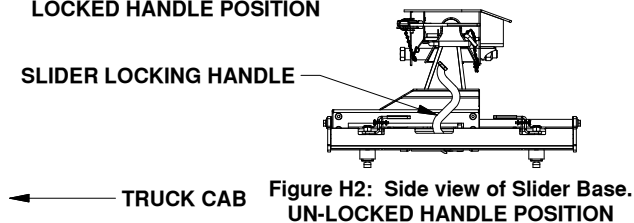

Figure H2: Side view of Slider Base. UN-LOCKED HANDLE POSITION
2. Pull the handle toward the rear of the truck to move it to the unlocked position, shown in Figure H2.
6. Pull the handle toward the rear of the truck to move it to the unlocked position, shown in Figure H2.